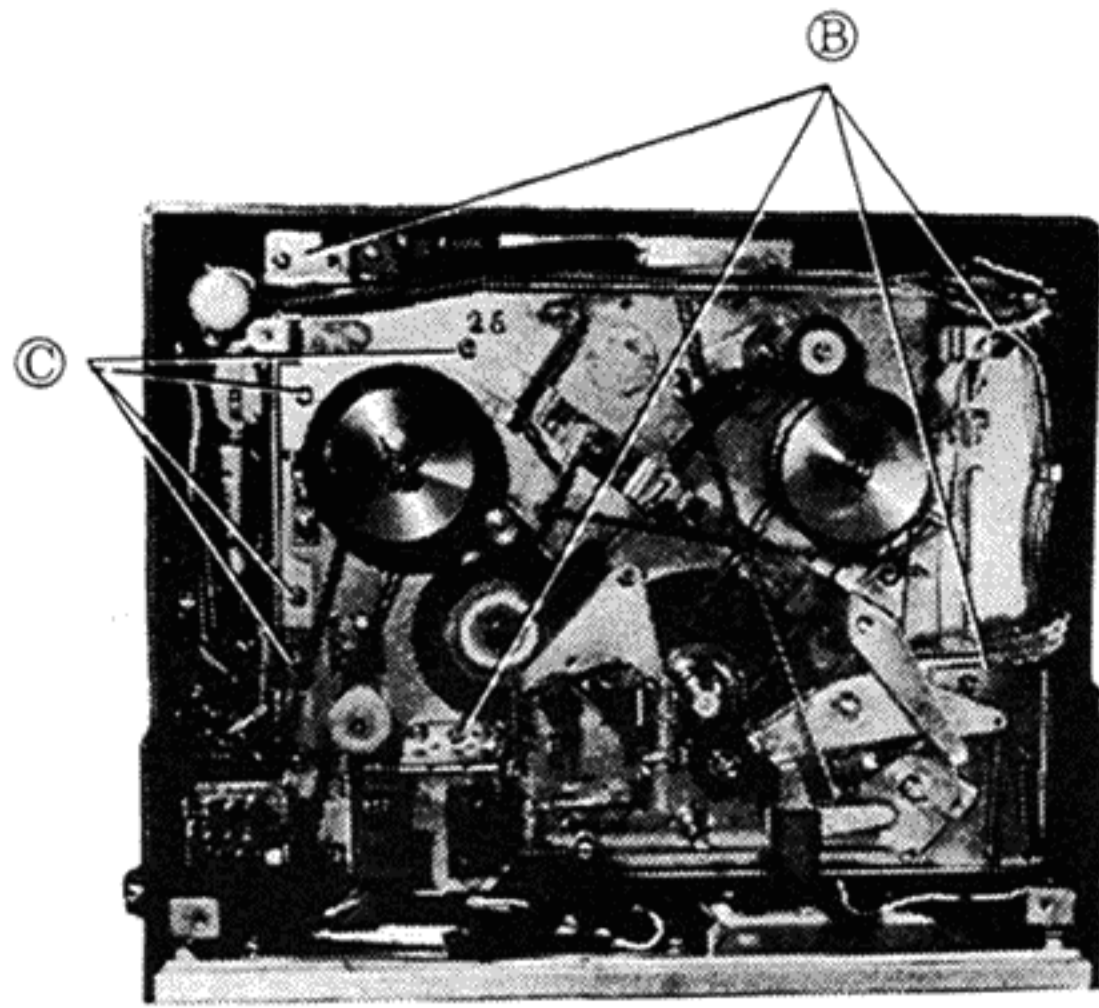

Fig. 2
2. Removal Procedure of Cabinet Body (Fig. 2)
3. Removal Procedure of Amplifier (Fig. 2)